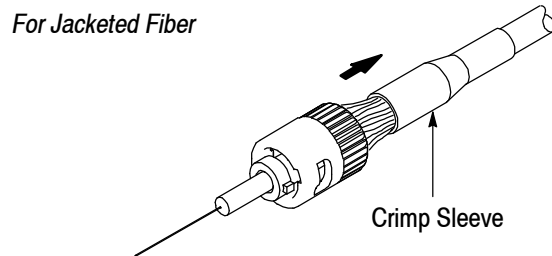

Figure 10
a. While holding the connector, carefully slide the crimp sleeve away from the connector body to release the strength members. See Figure 10.